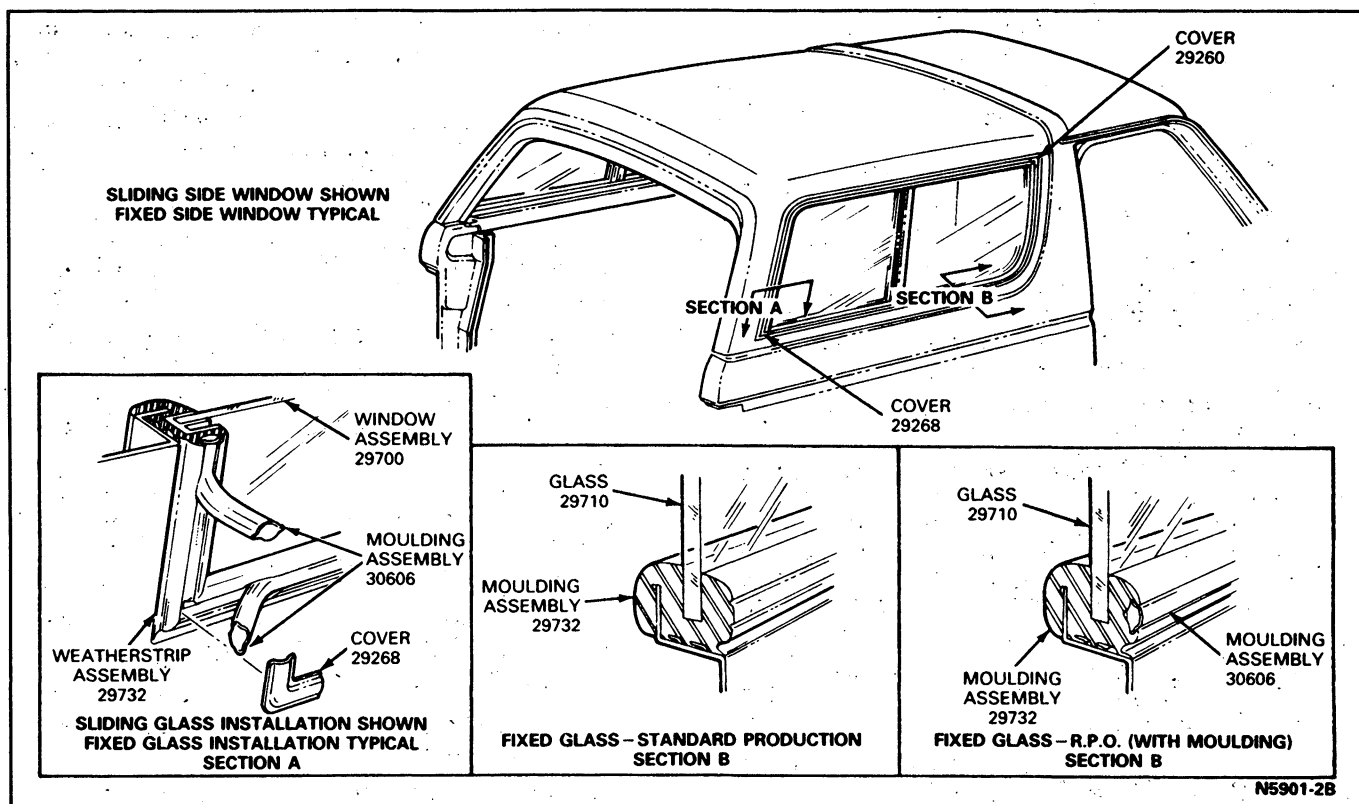

FIG. 3 Rear Side Window Installation—Bronco
2. Remove the weatherstrip from the glass (Fig. 3).
4. Apply a bead of Liquid Butyl Sealer C9AZ-19554-B or equivalent between the secondary sealing fins of the weatherstrip (Fig. 3).